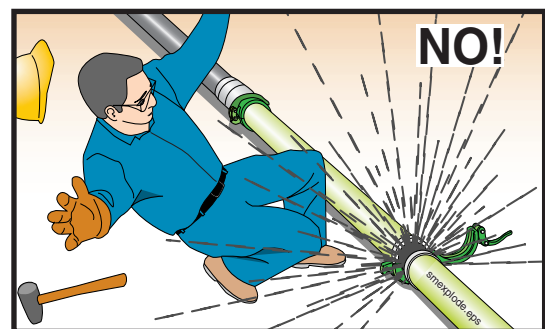

Figure 48
- Pump in **reverse** for **at least two strokes**, then stop the pump. **Do not allow anyone to open the pipeline** until this is done (Figure 48).